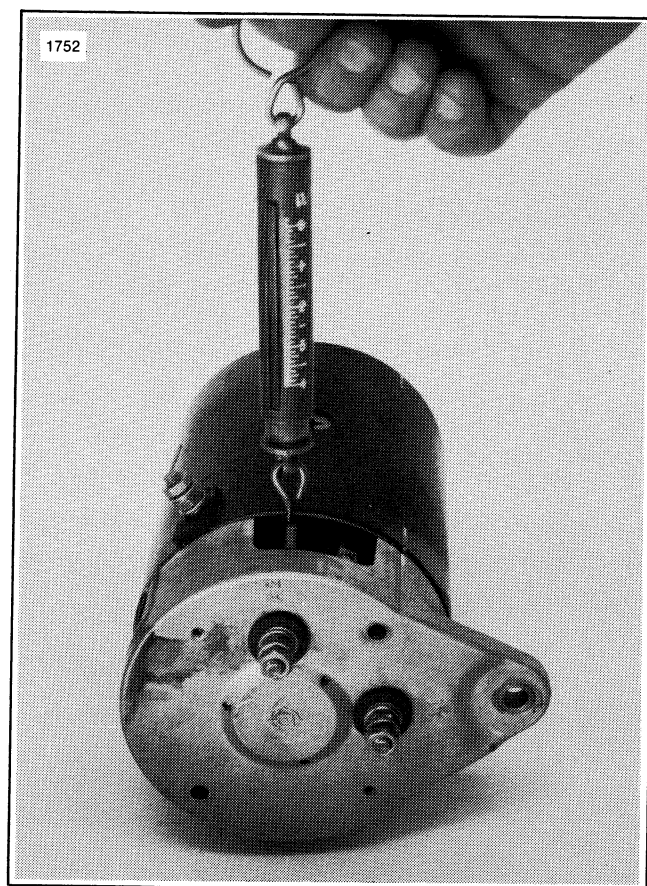

Figure 8-31. Brush Spring Retension
2. Test brush spring tension. Use a scale (Figure 8-31) to test spring tension. Reject springs which apply a force less than 28 ± 4 oz. (680.4 grams).